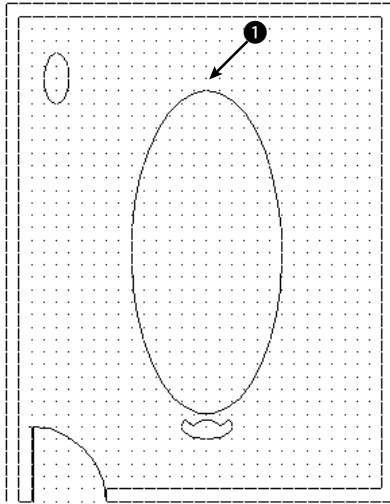

**Figure 9-8:** The conference room.
2. Save the file as *ab09-05.dwg* in your AutoCAD Bible folder. This drawing shows a conference room, as shown in Figure 9-8.